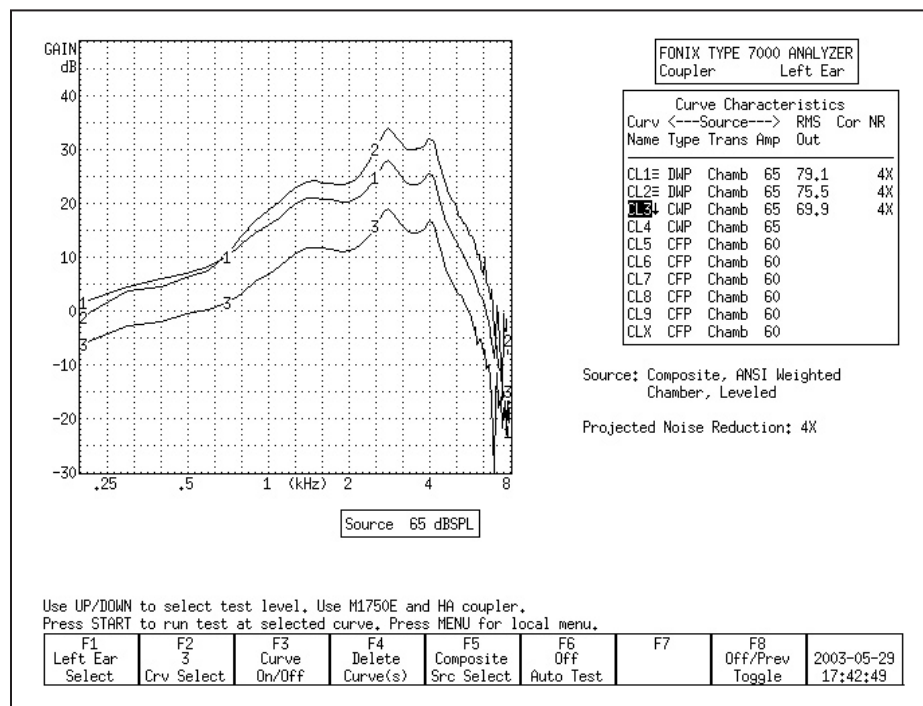

Figure 3.5.2—Comparison of a digital aid tested with Digital Speech ICRA (CRV1), Digital Speech ANSI (CRV2), and the Composite signal (CRV3).
5. Use [F5] to choose the DIG SPEECH signal source. It will now have the ICRA speech weighting. See Figure 3.5.2 for a comparison of an aid tested with the ANSI and ICRA speech weightings.
6. Use [F5] to choose the DIG SPEECH signal source. It will now have the ICRA speech weighting. See Figure 3.5.2 for a comparison of an aid tested with the ANSI and ICRA speech weightings.